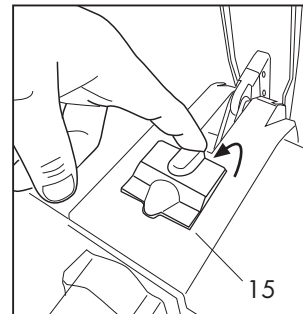

Fig. 10
ATTENTION: if the hatch (15) is closed, open it manually **(Fig. 10)**